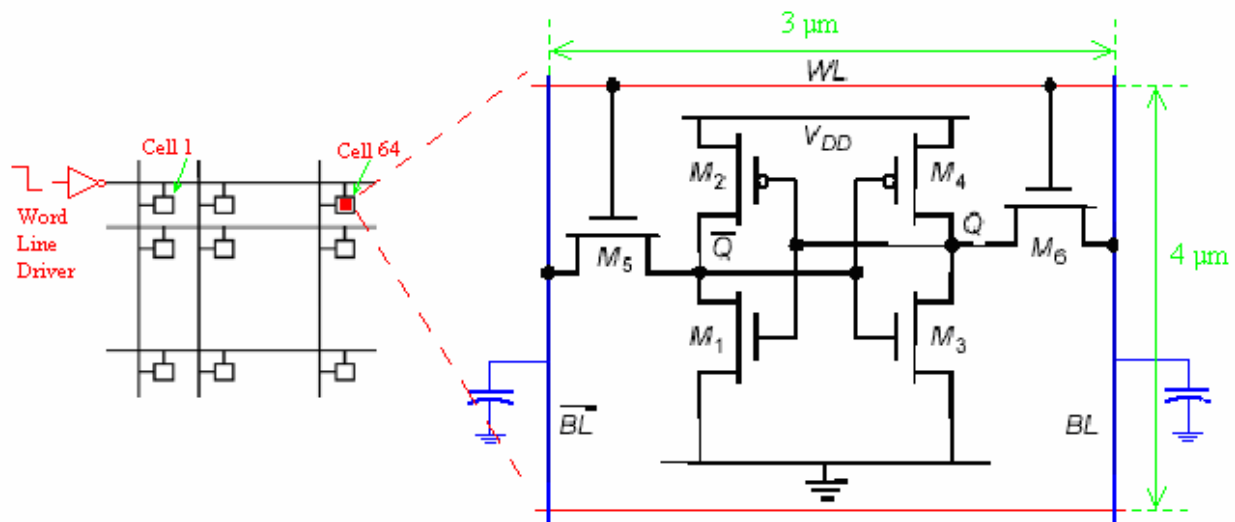

Figure 8.1
8. Figure 8.1 shows an array (128 X 64) of 6T SRAM cells ($4\mu\text{m} \times 3\mu\text{m}$). The word line is being driven by an inverter ($W_p = 10\mu\text{m}$, $W_n = 4\mu\text{m}$) with a step input. The bit line capacitances are $C_{BL} = 100\text{fF}$ each. Assume that a successful read operation requires that the bit line voltage (initially precharged to $V_{dd} = 2.5\text{ V}$) changes by $\Delta V = 250\text{ mV}$. The sense amplifiers have an input to output delay of 25 ps. All transistors in the SRAM cell have minimum channel length and $W = 0.5\text{ }\mu\text{m}$.